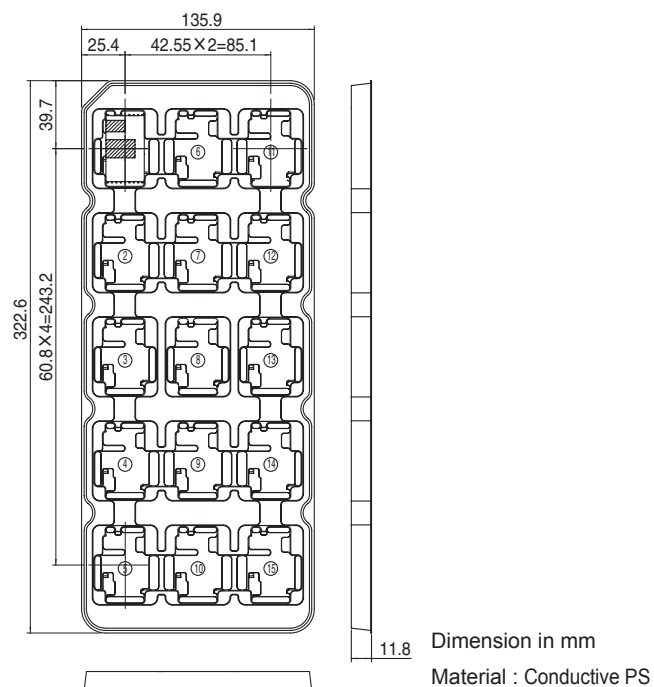

Fig.9.1 Delivery package information (SFLS10/SFLS15)
■ These are packed in a tray (Fig.9.1, 9.2).